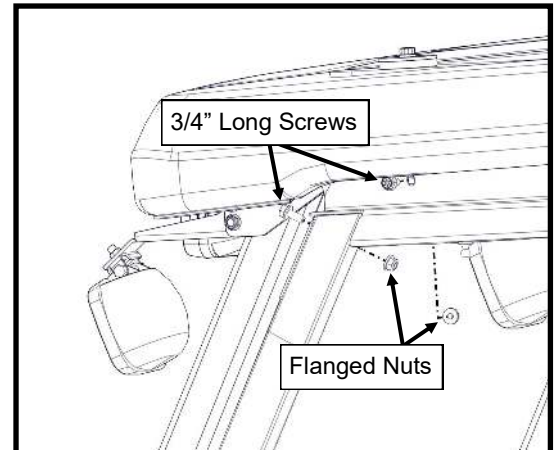

Figure 5.3: Side Frame to W/S Support Bolts
- 5.3 With assistance, set the left side frame up under the roof and onto the floor board and fasten the side frame to the windshield support (see Figure 5.3). Use the top hole on the front part of the windshield support, as the lower hole will be used with the windshield itself. Leave hardware loose.